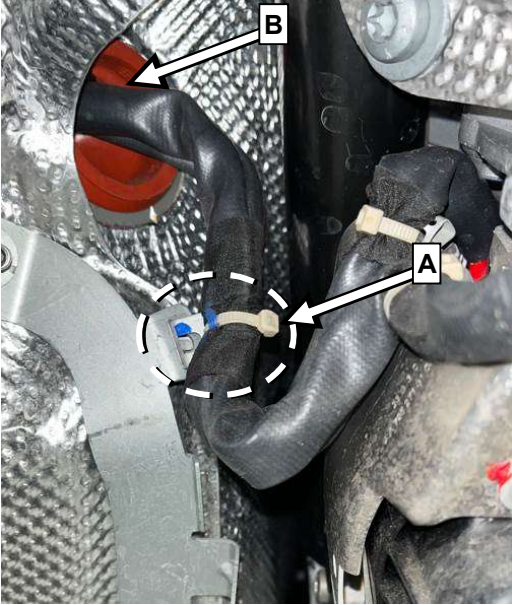

Figure 3
1. Cut cable tie at first clip (**Figure 3, A**).
2. Adjust length of electrical wiring harnesses between red grommet (**Figure 3, B**) and first clip (**Figure 3, A**) as shown.
- i** The length must be between **90 mm and max 100 mm** from the first clip (**Figure 3, A**) to the red grommet.
3. Fasten both electrical wiring harnesses to first clip (**Figure 3, A**) with a new cable tie.